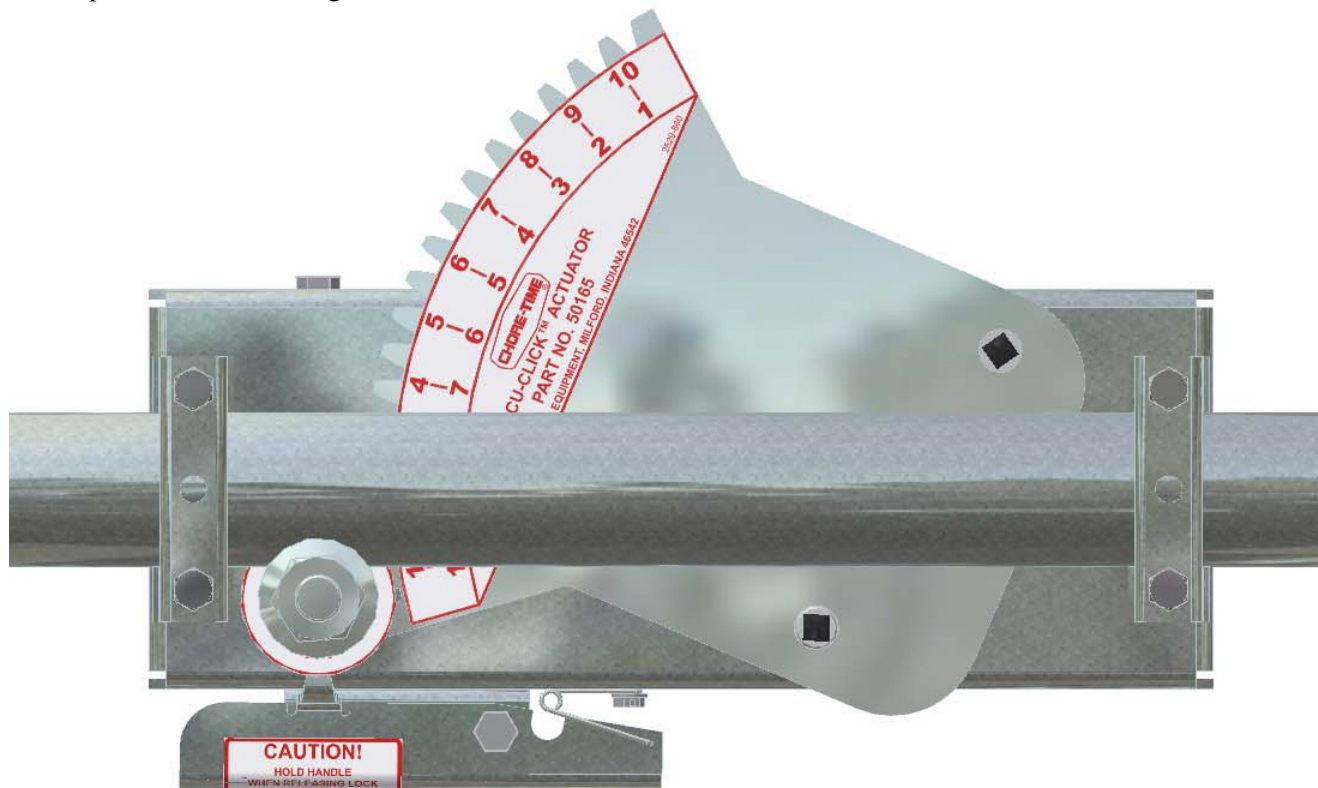

Figure 67. Actuator in Fully Open Brood Position
1. Once all actuators are installed operate actuators to the retracted fully open brood position, **see figure 67.**
Mid-Line Control Units are available for the Rev. 8 & 12 Feeders. The Mid-Line Controls are shown in **Figure 67**.